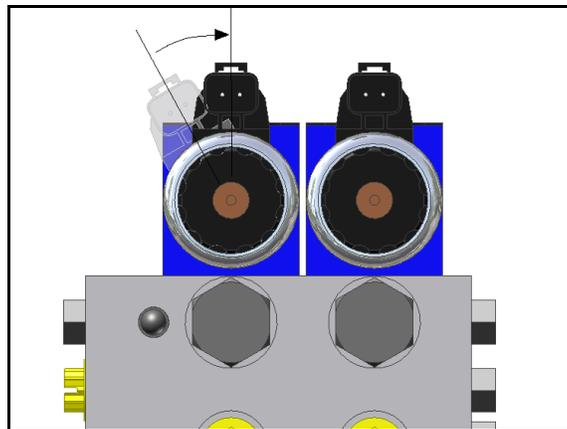

Figure 16: Align Coils
2. Verify the valve coil connectors are oriented vertically (Figure 16).